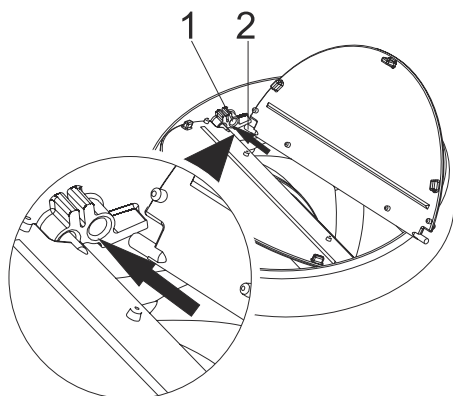

Fig. 14
- Insert the plastic pin (area no.2) on the pin socket on the motor exhaust (area no.1).(Then bend the flap lightly to insert the other pin on the flap and insert the other pin to its socket (Fig. 14).